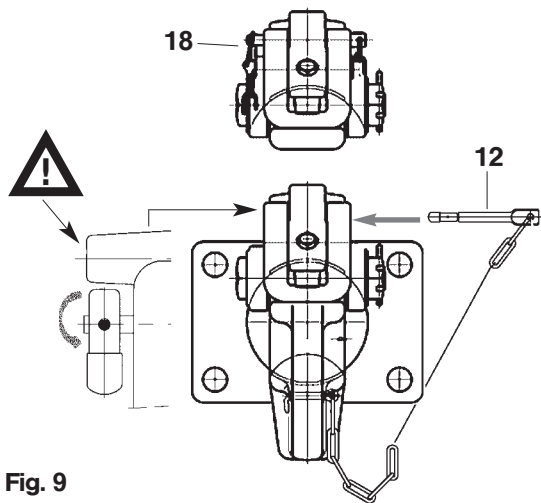

Fig. 9
- the end part of the security pin **must swing down**. (see fig. 9)